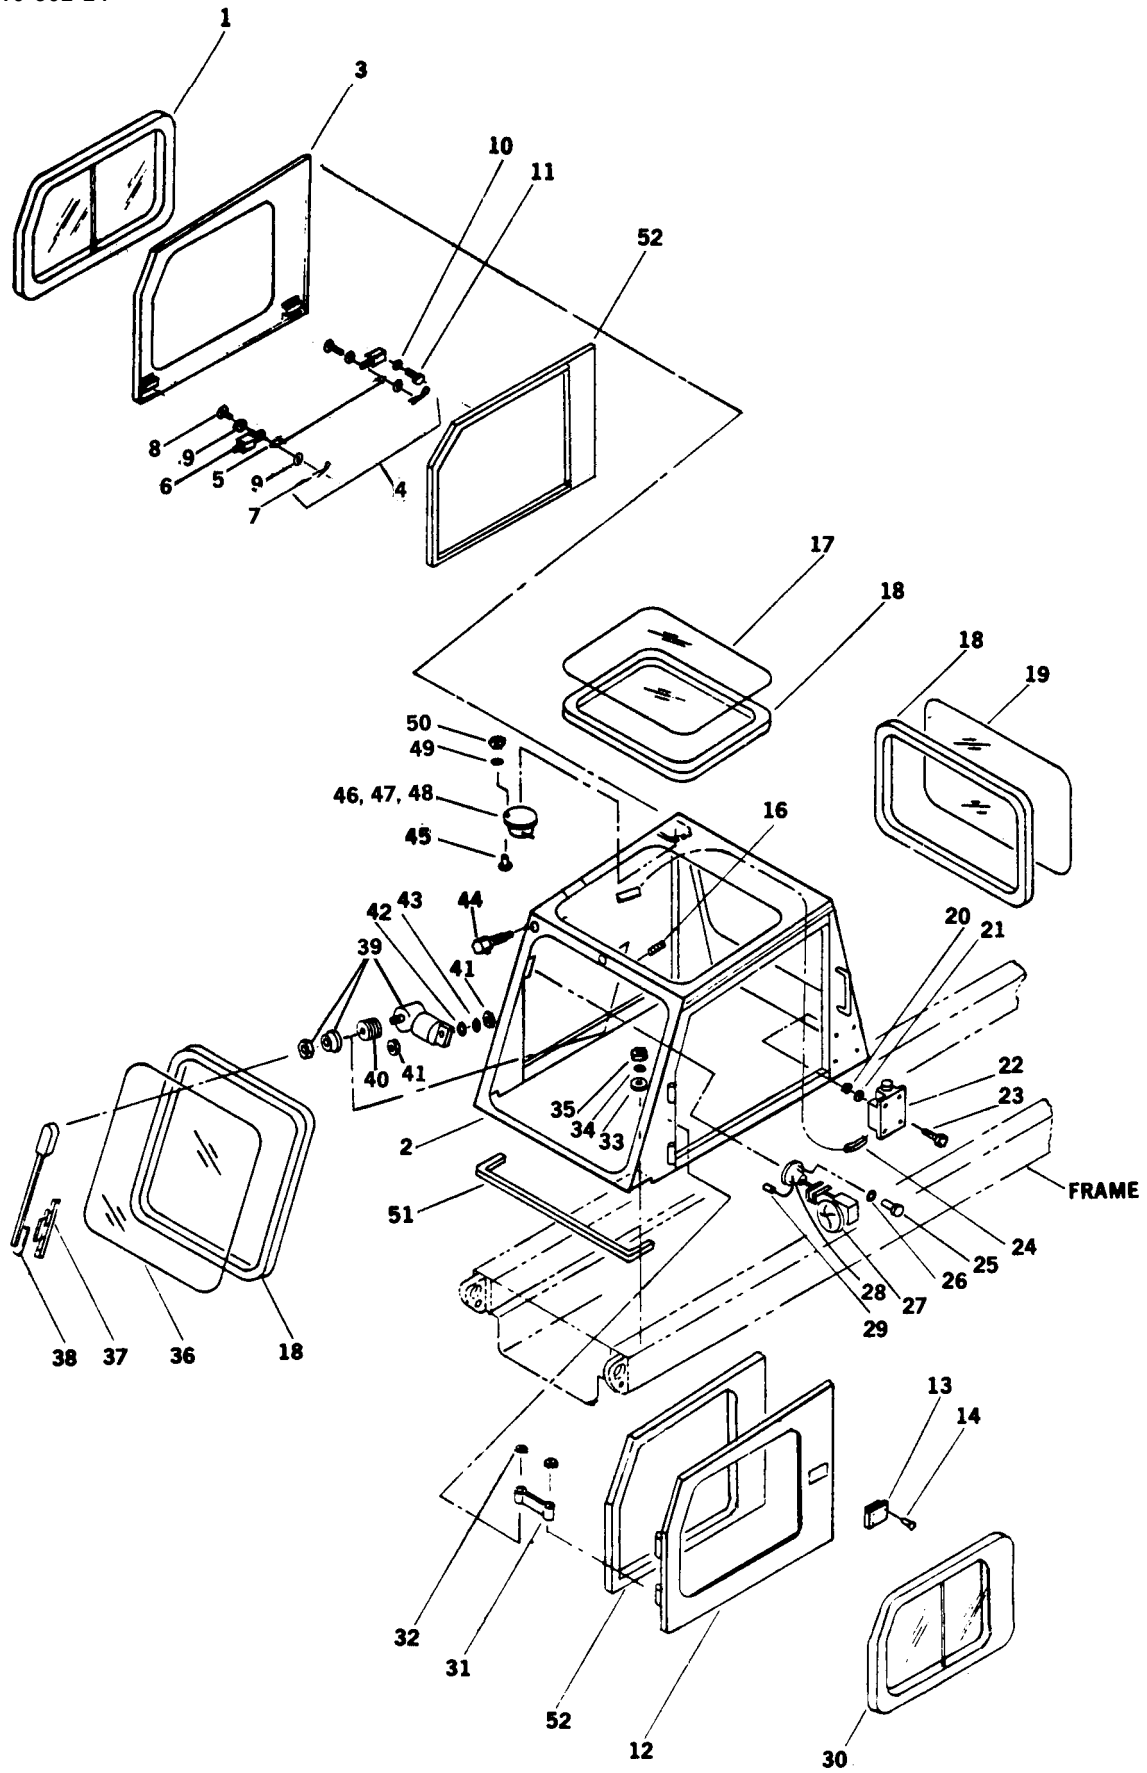

Figure 2-1. Cab Assembly
- a. Disconnect wiring harness to wiper motor (39, figure 2-1), dome light (46), defroster fan (27), and pump (22).
- b. Remove locknuts (32), door strap (31), and door (12).
- c. Remove nuts (35), lockwashers (34), and washers (33).
- d. Pull emergency door cable (5) and lift off emergency door (3).
- a. Repair shall be limited to the replacement of all worn or damaged parts. Refer to figure 2-2 for repair of window assemblies (1 and 30, figure 2-1).
- a. Position cab assembly (2, figure 2-1) on frame aligning studs on frame with drilled holes in cab.
- b. Install washers (33), lockwashers (34), and nuts (35).
- c. Connect to wiper motor (39), dome light (46), defroster fan (27), and pump (22).
- d. Install door (12), door strap (31), and locknuts (32).
- a. Tag and disconnect electrical leads to wiper motor (39, figure 2-1).
- b. Remove wiper arm (38).
- c. Remove nut and spacer part of wiper motor (39).
- d. Remove nut (41), lockwasher (43), and washer (42).
- e. Remove wiper motor (39) and washers (40).
- a. Position wiper motor (39, figure 2-1) with washers (40) at mounting hole in cab.
- b. Install washer (42), lockwasher (43), and nut (41).
- d. Install wiper arm (38).
- a. Tag and disconnect electrical leads at defroster (27, figure 2-1).
LEGEND FOR FIGURE 2-1
a. Repair shall be limited to the replacement of the defroster switch (28, figure 2-1).
a. Position defroster (27, figure 2-1) in cab.
b. Install screws (25) and lockwashers (26).